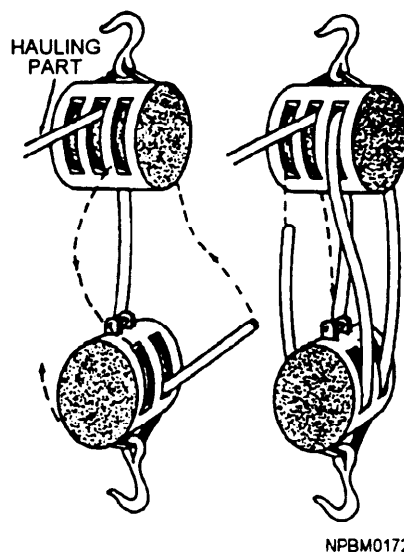

Figure 8-8.—Reeving a double-luff tackle.
- **DOUBLE-LUFF TACKLE:** This tackle consists of a treble block and a double block. The right-angle method of reeving it is shown in figure 8-8.